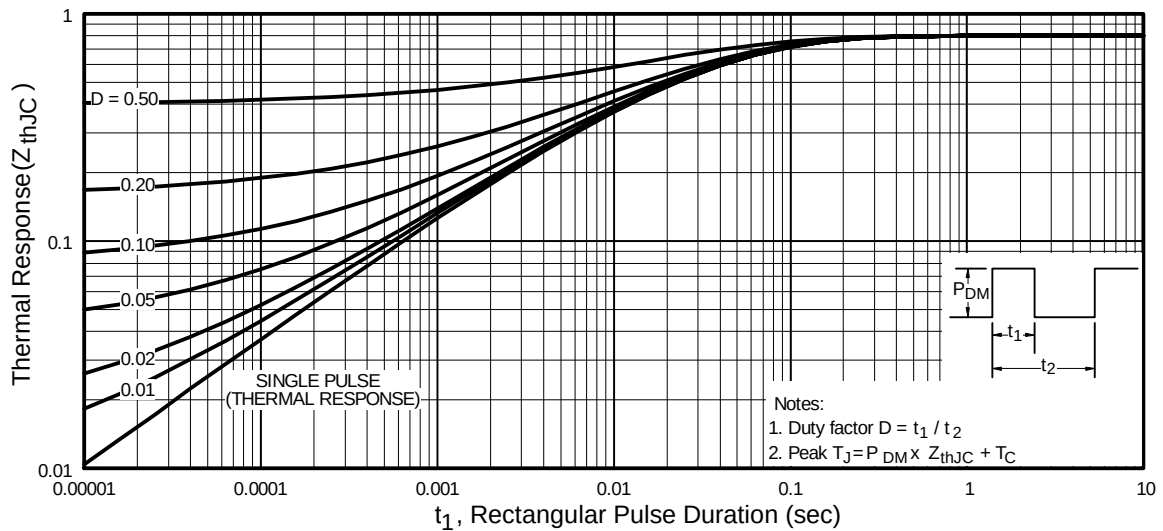

Fig 11. Maximum Effective Transient Thermal Impedance, Junction-to-Case
① Repetitive rating; pulse width limited by max. junction temperature. (See fig. 11)
② $V_{DD} = 25V$, Starting $T_J = 25^\circ\text{C}$, $L = 22\mu H$